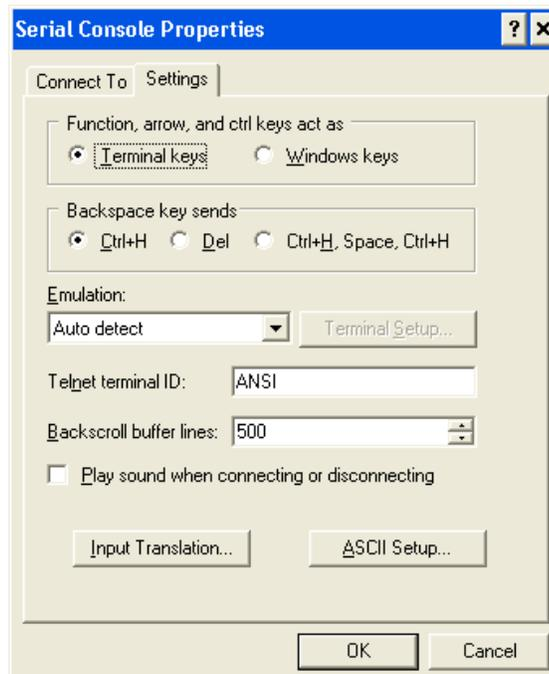

Figure 5: HyperTerminal Properties
5. Select **File > Properties** in the HyperTerminal window. Choose the Settings tab (Figure 5).